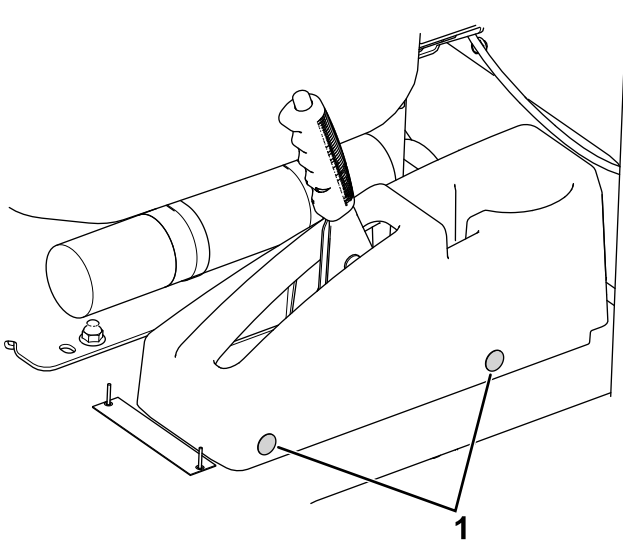

Figure 13
1. Remove the push-in fasteners that secure the brake cover to the floor (Figure 13).
- 9. Install the brake cover with the 2 previously removed push-in fasteners (Figure 13).